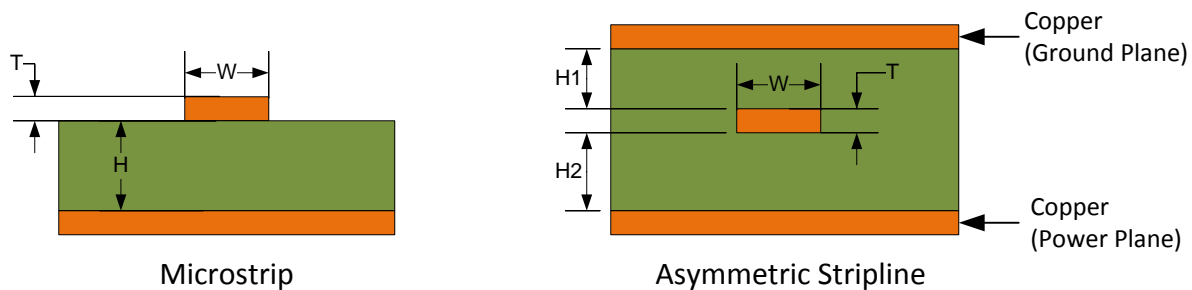

Figure 7. Transmission Line Type
- These internal layers (3 and 4) are considered asymmetric stripline relative to the Ground and Power plane (layers 2 and 5). Refer to Figure 7. The calculations for impedance of traces on these layers are different than layers 1 and 6.
The first step in calculating these single-ended trace properties is to identify the transmission line type of the trace. The Microstrip transmission line type as shown in Figure 7 is most common on two-layer and four-layer boards as well as layers 1 and 6 of six-layer boards. The Asymmetric Stripline transmission line type is most common on layers 3 and 4 of six-layer boards.